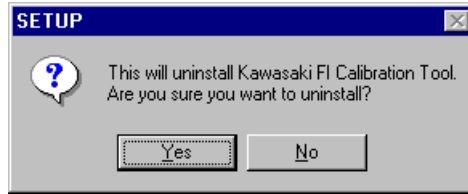

Fig. 12 Uninstall Starting Screen
(3) The screen shown in Fig. 12 appears.